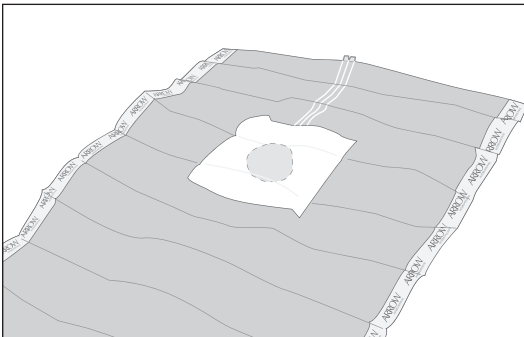

Figure 21
- Perform sterile procedure (refer to Figure 21).